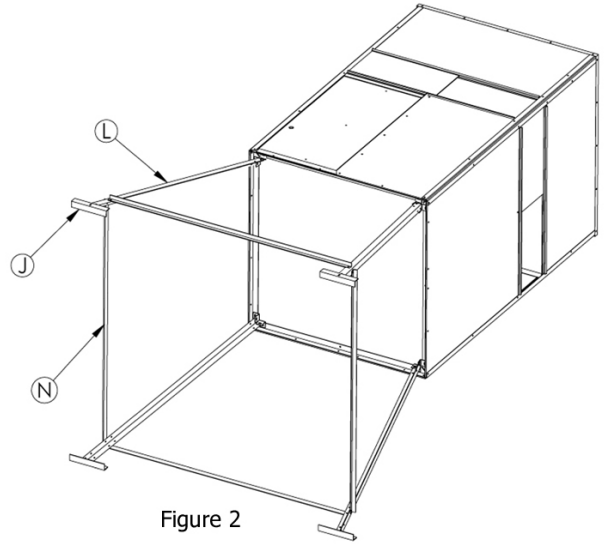
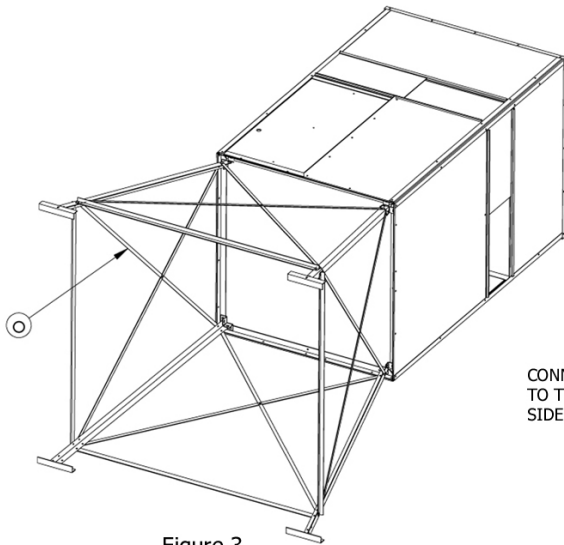

Figure 2
Figure 3
5. Complete the tower by adding all braces as shown. (Fig. 2 & Fig. 3)
6. Attach the (J) Feet as shown. (Fig 2)